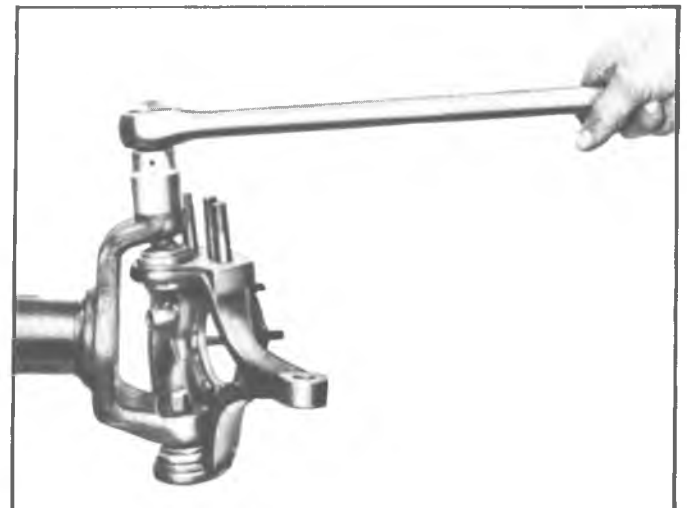

Fig. 62—Removing Ball Socket Retaining Nut
12. Remove the retaining nuts from the upper and lower ball sockets as shown in Figure 62.